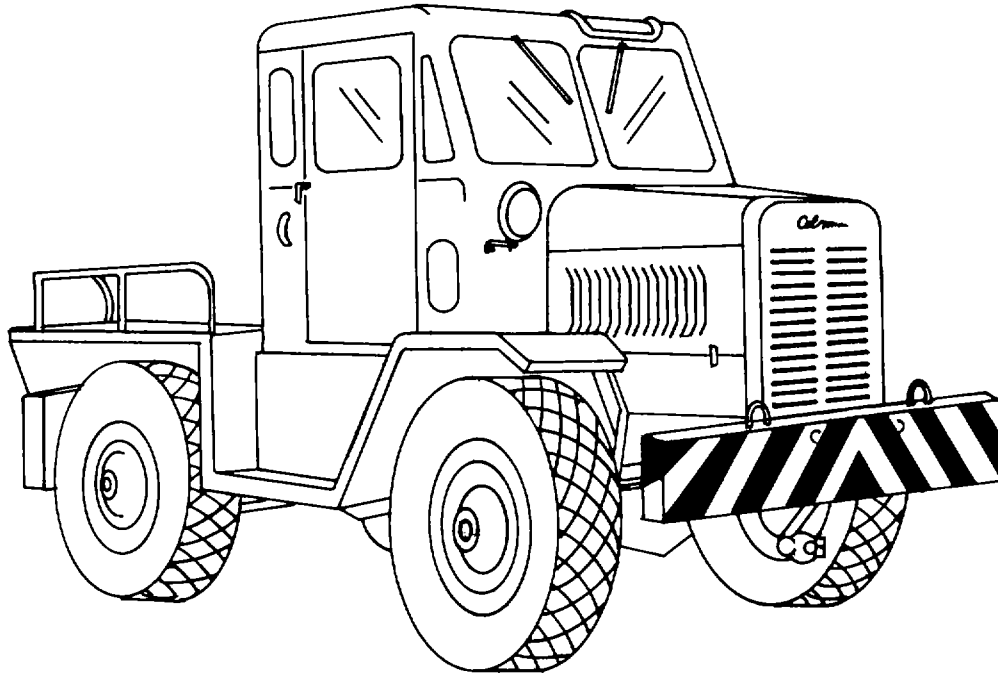

Figure 9-21. Type MB-4 Tow Vehicle
n. Aircraft Towing Vehicle. The aircraft tow vehicle, shown in figure 9-21, is used to move an aircraft from one spot to another. A towbar is the connection between the two vehicles and the aircraft.